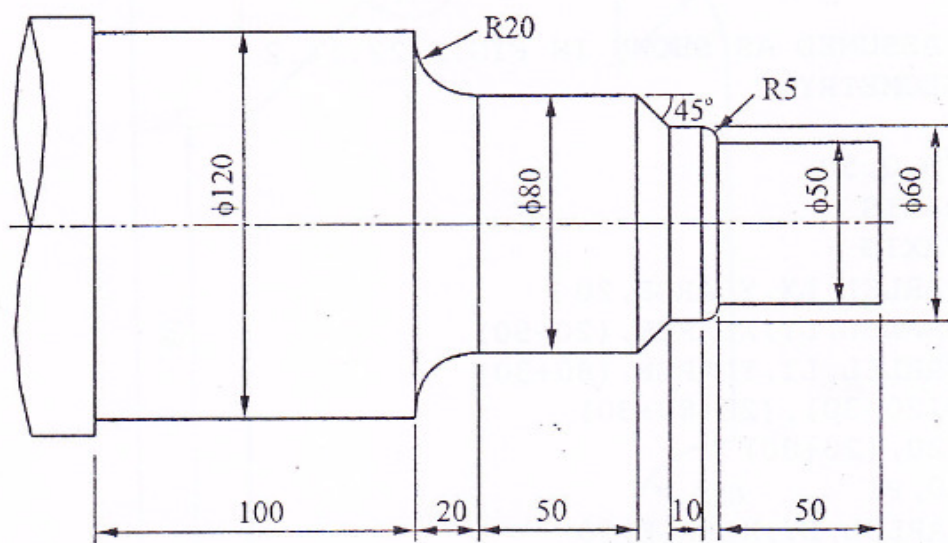

Fig. 3
- Q.5** (a) Write a complete APT part programme to turn a shaft as shown in fig. 3. The post processor call statement is MACHINE/CAST, 1. The tool used has a nose radius of 3mm. Assume spindle speed as 300 rpm and feed for machining as 0.3 mm/rev. **10**